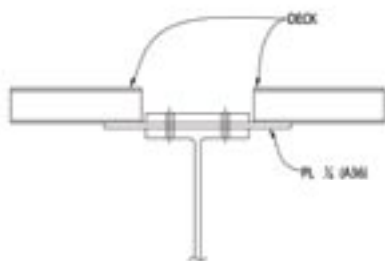

Figure 7. Deck Bearing at Bolted Flange-Plate Connection
44. When using a field-bolted top flange plate, make a note to provide deck bearing at the flange connection. A 1/4-in. shim between plate and flange can be extended providing support in lieu of a standard deck angle. **Figure 7** shows an example with a 1/4-in. shim.